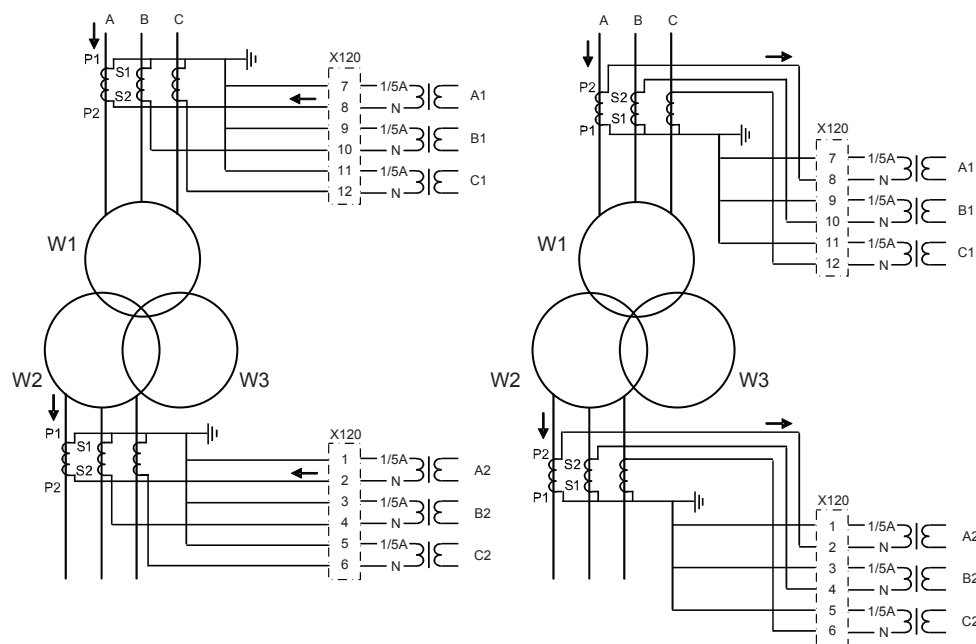

Figure 203: Connection of current transformers of Type 2 and example of currents during external fault
- If the positive directions of the winding 1 and winding 2 relay currents are equal, the setting parameter *CT connection 1-2* is "Type 2", as shown in Figure 203